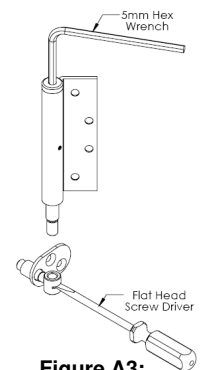

Figure A3:
- Using the 5mm wrench, remove the Jamb Pivot Pin from the Jamb Pivot Bolt (turn counter clockwise). With a Flat Head Screwdriver; turn the Pivot Bolt clockwise/counterclockwise depending on the direction the panel needs to go. Insert the Pivot Pin back into the Bolt and tighten down completely (Figure A3).